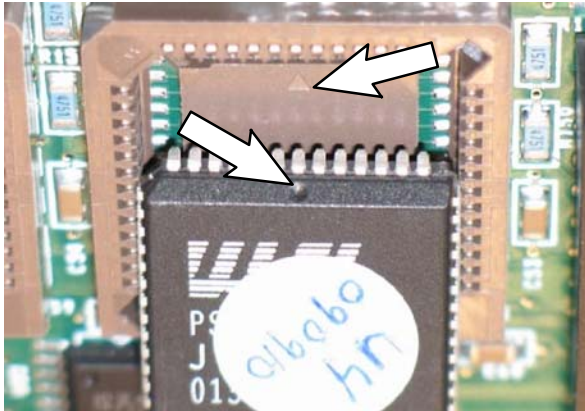

FIG. 11
7. Install the new memory flash card (2) onto the circuit board where the old memory flash card was previously located. Be sure the edge of the memory flash card with the indentation is positioned in the side of the socket with the arrow or dot. (Fig. 11)